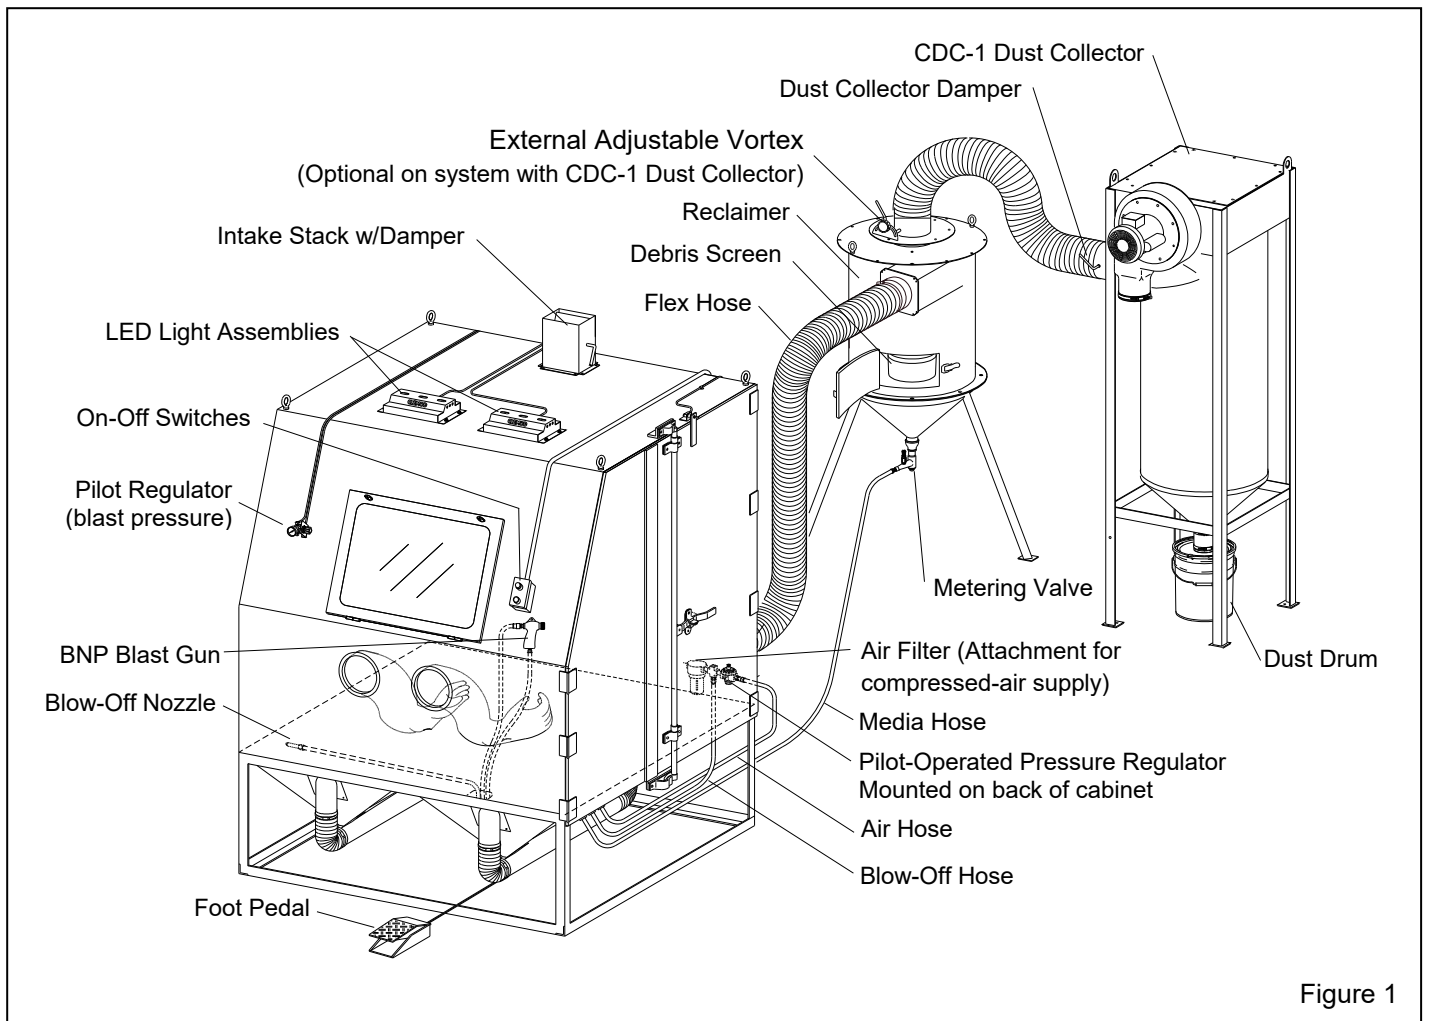
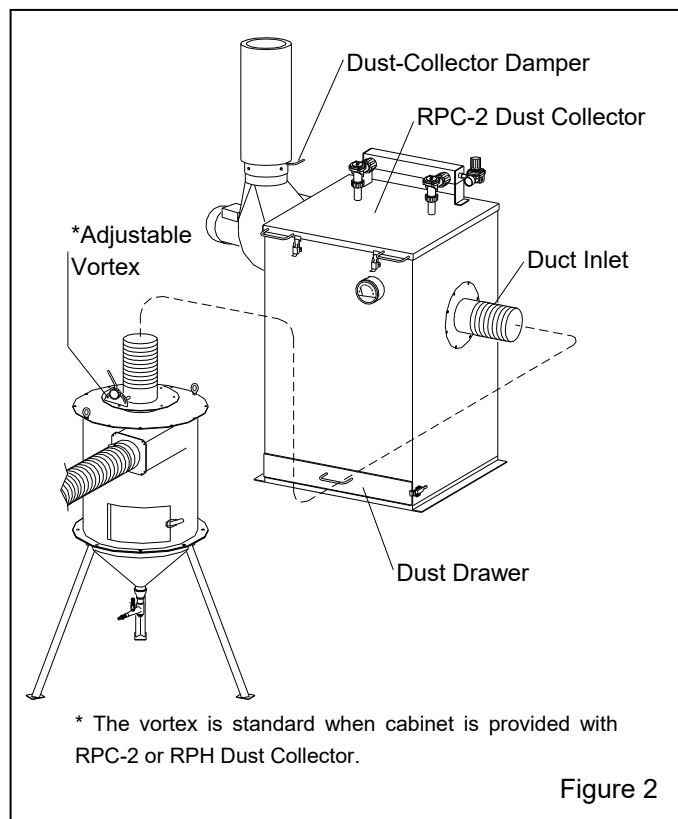

Figure 1
Figure 2
**1.4.3** Refer to Figure 1 for arrangement of components with a CDC-1 Dust Collector. The illustration shows a freestanding 900 reclaimer. 1200 and 1800 cfm reclaimers have minor differences. Figure 2 shows the arrangement with an RPC-2 Reverse-Pulse Dust Collector with dust drawer. The optional RPH is set up the same way as the RPC-2, but includes a hopper for additional dust storage and empties into a drum. The overall height of an RPH-2 is approximately 10.5 feet and 12 feet when the top access door is open. To upgrade, an RPC-2 or RPH-2 Dust Collector may be added at any time.
**1.6.1 CDC-1 Dust Collectors:** Shown in Figure 1, the collector is available for 900 cfm models. The single-filter cartridge is cleaned by using a manually controlled pulse of compressed air. Dust collects in a 5-gallon dust drum, which must be frequently emptied. CDC-1 Dust Collectors are standard with BNP cabinets with 900 cfm reclaimers unless an optional RPC-2 or RPH-2 Dust Collector is ordered at time of purchase. Refer to manual number 28225.
**1.6.2 RPC-2 Dust Collectors:** Shown in Figure 2, this collector is available for 900 cfm models for use with BNP-6012 and 7212 cabinets. Dual-filter cartridges are automatically cleaned by a timed, periodic pulse of compressed air. Dust collects in the drawer, and it must be frequently emptied. Refer to manual number 22788.
**1.6.3 RPH Dust Collector:** The RPH-2 (900 cfm and RPH-3 (1200)cfm) are set up and operates the same as the RPC-2, as shown in Figure 2, but instead of a dust drawer the collector sits atop a hopper, which provides additional dust storage and empties into a 30-gallon drum. An RPH is standard with 1200 cfm models. Refer to manual number 21449.
**2.1.1** Refer to Figures 1 (and Figure 2 for optional RPC-2 Dust Collector) for the general arrangement. Place all components in a convenient location where compressed air and electrical service are available. The cabinet location must comply with OSHA and local safety codes. Allow for full access to all doors and service areas, and for efficient handling of large parts. Provide enough clearance at the dust collector for maintenance and to remove the dust container. Place freestanding reclaimers directly behind the cabinet with flex hose connections and metering valve facing toward the cabinet to allow for as few bends as possible to prevent wear. Determine the best location for all components and position them before making compressed-air connections, electrical connections, and attaching flex hose.